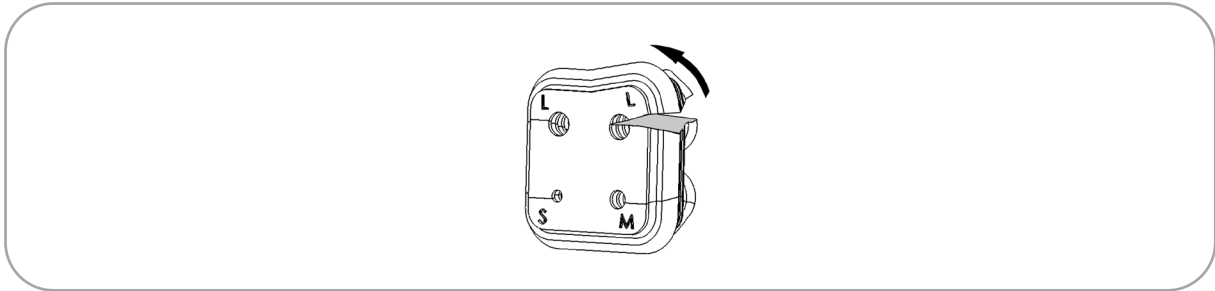

Figure 42: Rubber insert of VESA adapter
- To do so, pull the frame to the side (Figure 42).